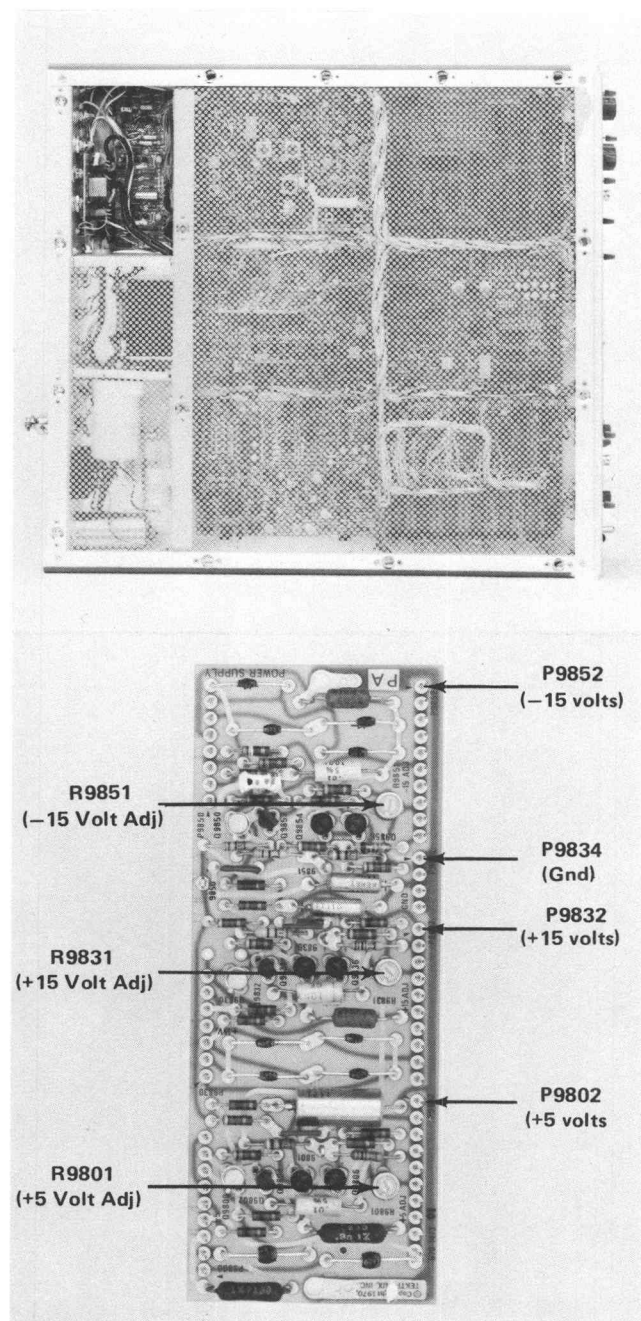

Fig. 4-4. Power Supply test point and adjustment locations.
a. Connect a precision DC Voltmeter between chassis ground (pin 1 of P9834) and P9852 (–15 volts), see Fig. 4-4.